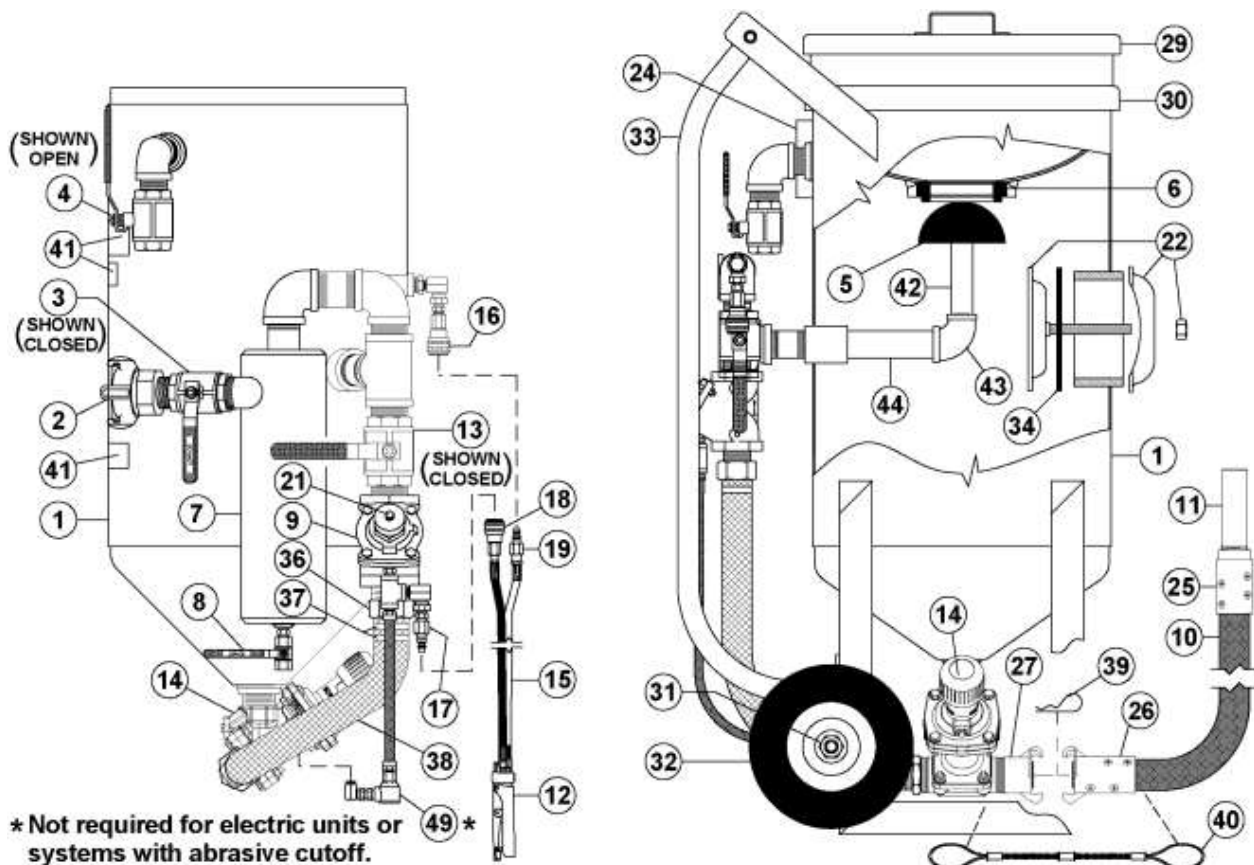

Figure 7.2 – TeraValve™ Abrasive Blaster with pneumatic deadman controls
7.3 Ending the Blast Operation (See Figure 7.2)
- 7.3.1. Close the air inlet ball valve (#3). The ball valve is closed when the handle is fully turned to the position shown in Figure 7.2 (handle perpendicular to body). The handle tab will bottom against the ball valve body in the closed position.